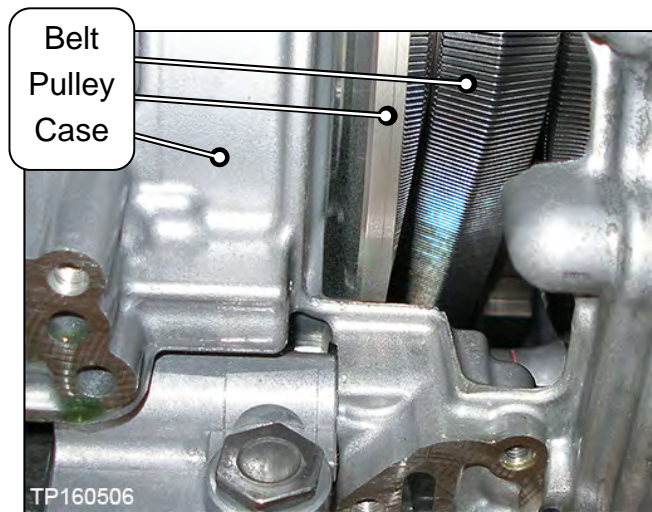
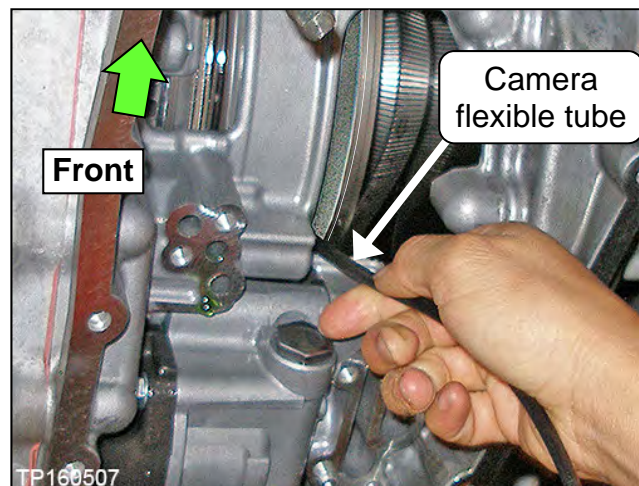

Figure 10
Figure 11
6. Using borescope J-51951 with its mirror attachment, insert the camera lens between the CVT case and pulley where shown in Figure 10 and Figure 11.
- Insert the lens approximately seven (7) inches, and then view the side of the belt that contacts the pulley.